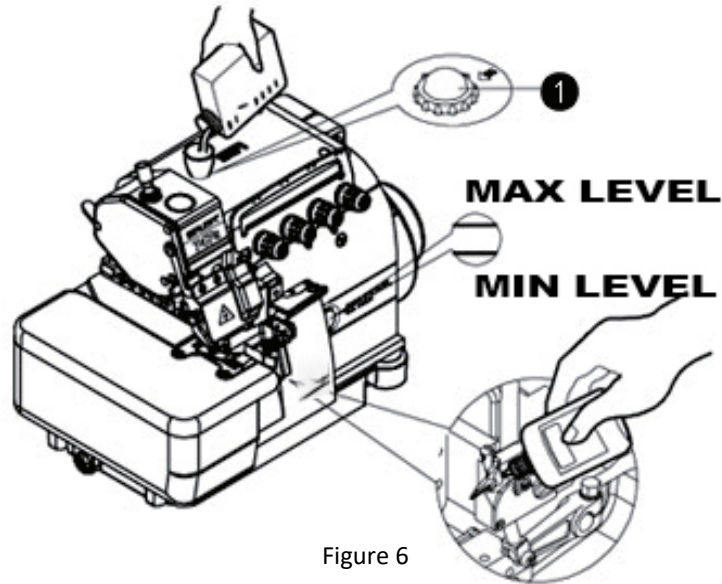

Figure 6
Fill the lubrication oil (Fig. 6)(1) Remove the screw (1), and fill it with the included high speed oil. Tighten the screw (1) after the oil level indicator locates between the two marking lines.